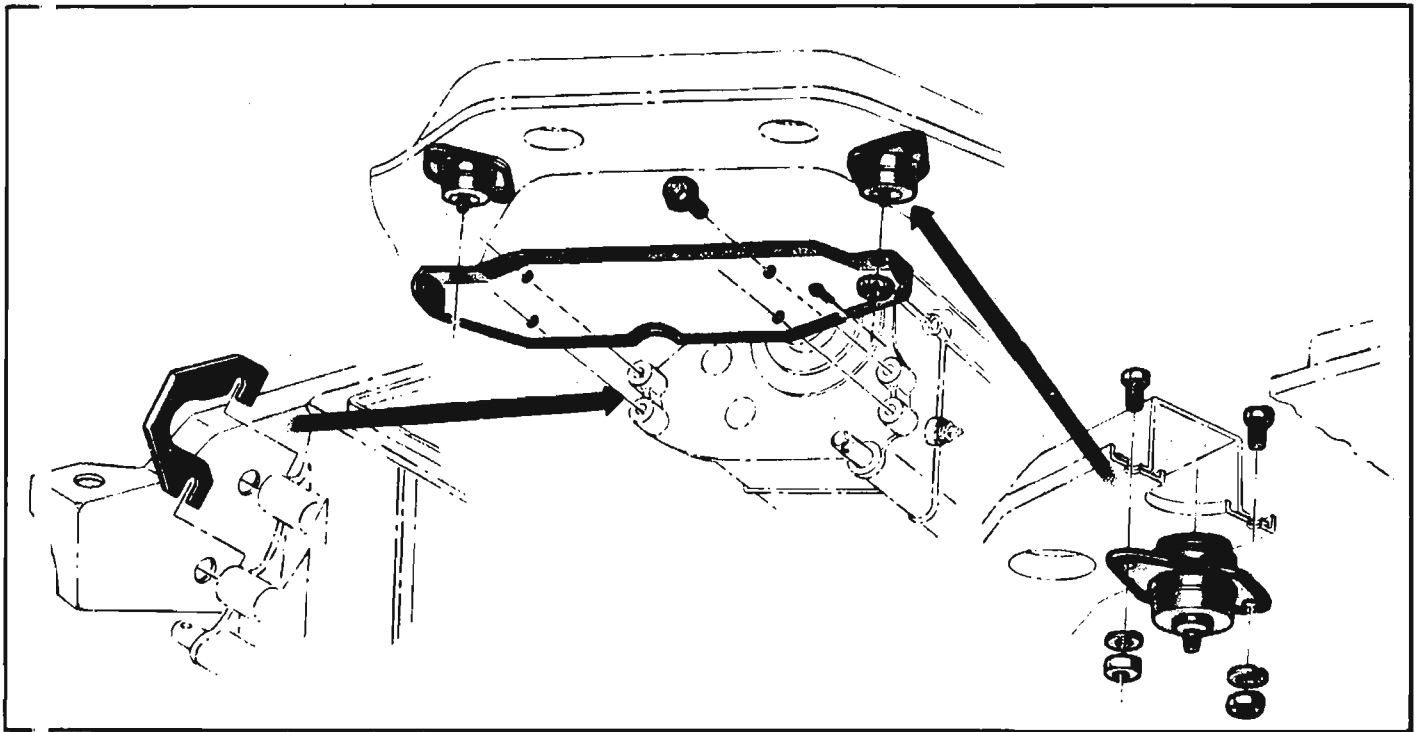

Fig. 3-35—Power Plant Brace Mounting
5. Remove the two forward crossmember to body attaching bolts, thick metal washers and lower cushions. Loosen the two nuts that attach the power plant mounting bracket to the crossmember (fig. 3-35).
4. Install the four bolts and all washers (after coating threads with an "anti-seize" compound) and shims (same number as removed) that attach the brace to the transmission (fig. 3-35). Be careful not to damage threads in aluminum casting. Secure these four bolts to 20-30 ft. lbs. torque.